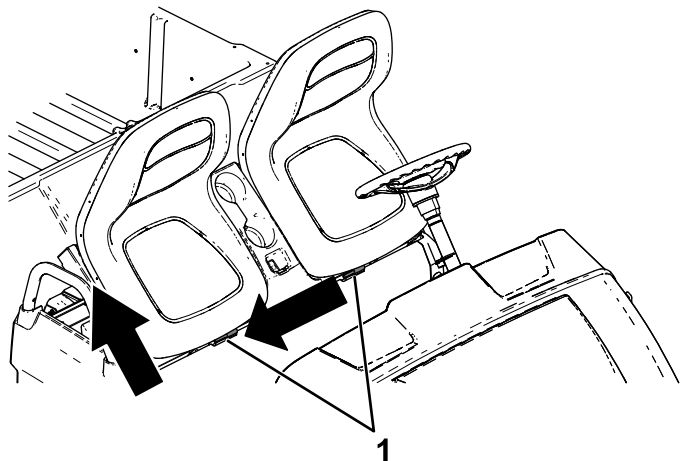

Figure 24
2. Slide the seat assembly to the side out of the pins, and lift the seat assembly upward (Figure 24).